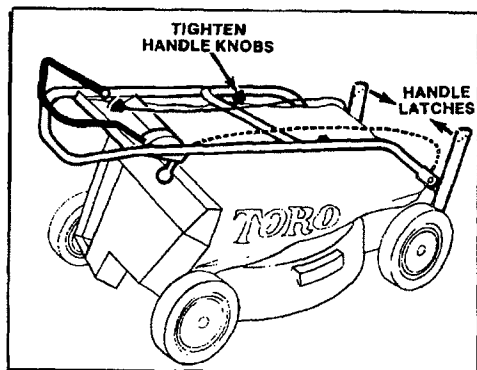

Figure 1
1. Align handles and tighten handle knobs (Fig. 1). Bend handle latches slightly toward each other (Fig. 1).